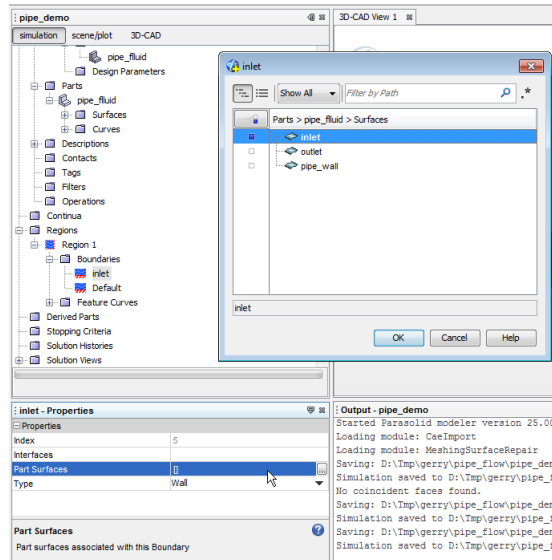

Figure 4: Assigning the inlet surface patch to the inlet boundary of the fluid region
5. Expand the nodes and click on the inlet – See Figure 4